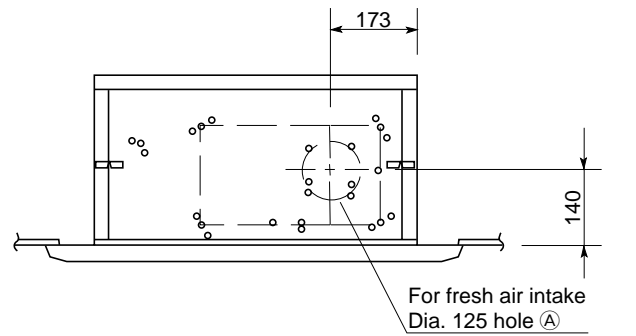

Fig. 3-6
If the system requires drawing air into the unit, cut and remove the insulation material (both externally and internally) at the location shown as (A) in Fig. 3-6.